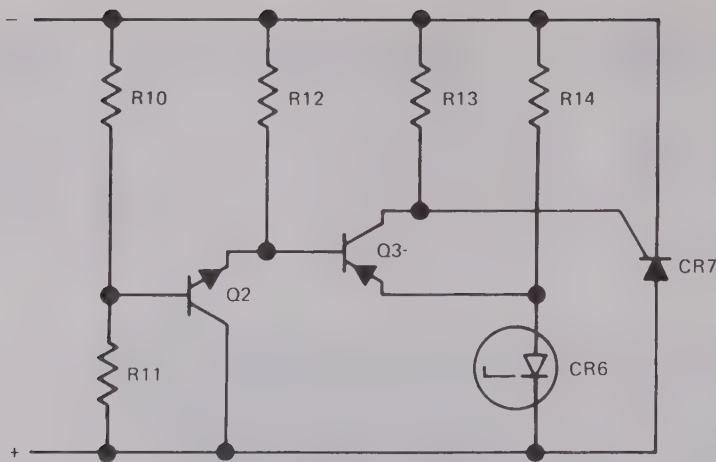

Fig. 14 Crowbar circuit
52. Crowbar circuit. The crowbar circuit is illustrated in Fig. 14. Its purpose is to provide protection to the r.f. source in the event that the bias supply voltage exceeds a safe level. In operation, the SCR, CR7, is fired and produces a short circuit across the bias supply, thereby reducing the bias voltage to zero. A reference voltage developed by Zener diode CR6 is compared with a sample of the output of the bias supply in transistor Q3. As the bias supply voltage increases, the base of Q3 becomes more negative until it causes Q3 to conduct, at which point CR7 is fired. The critical level at the base of Q3 is set by the value of R10.